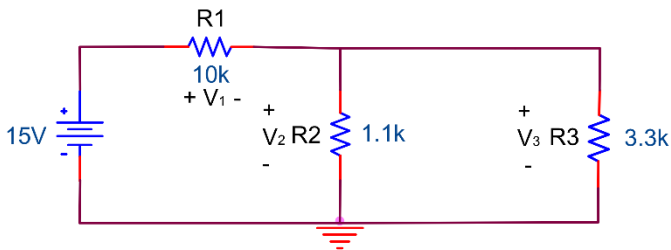
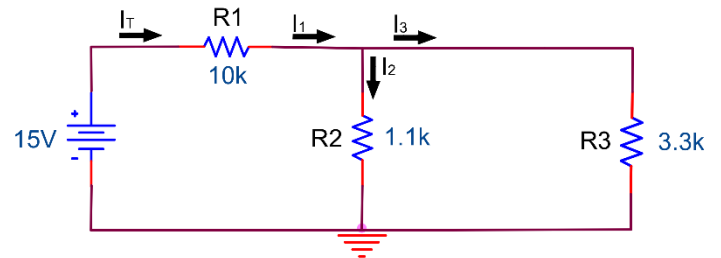

Figure 3.11
Figure 3.12
3. Measure and record the voltages and currents depicted in Figure 3.11 and Figure 3.12.